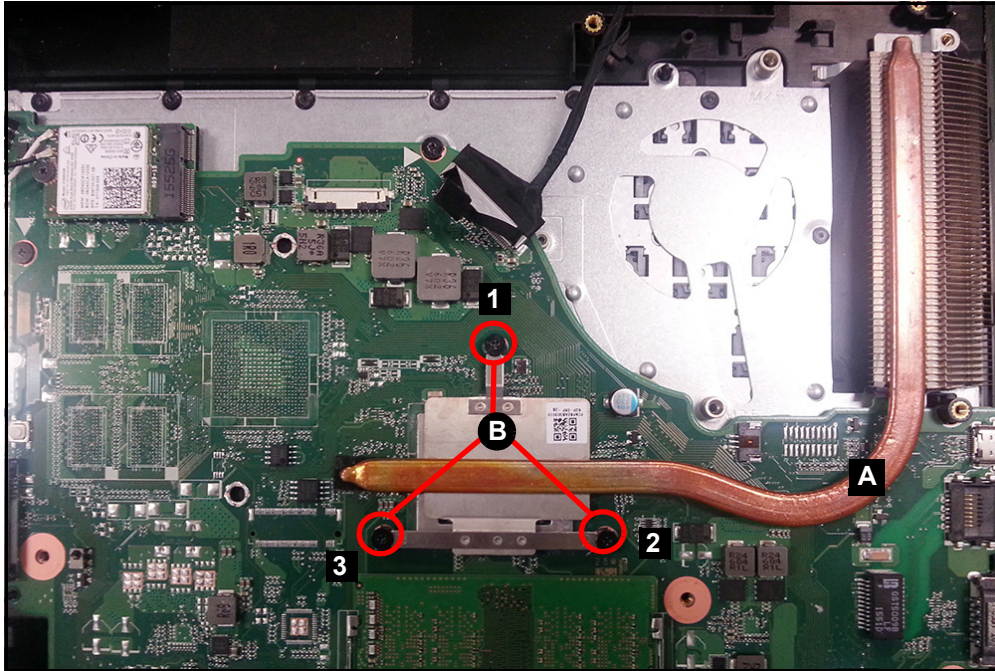

Figure 3-35. Heatsink (UMA) Removal
1. Find the heatsink (A) on the mainboard (Figure 3-35).
2. Remove three (3) screws (B) in reverse numerical order from three (3) to one (1) securing the CPU heatsink in place (Figure 3-35).